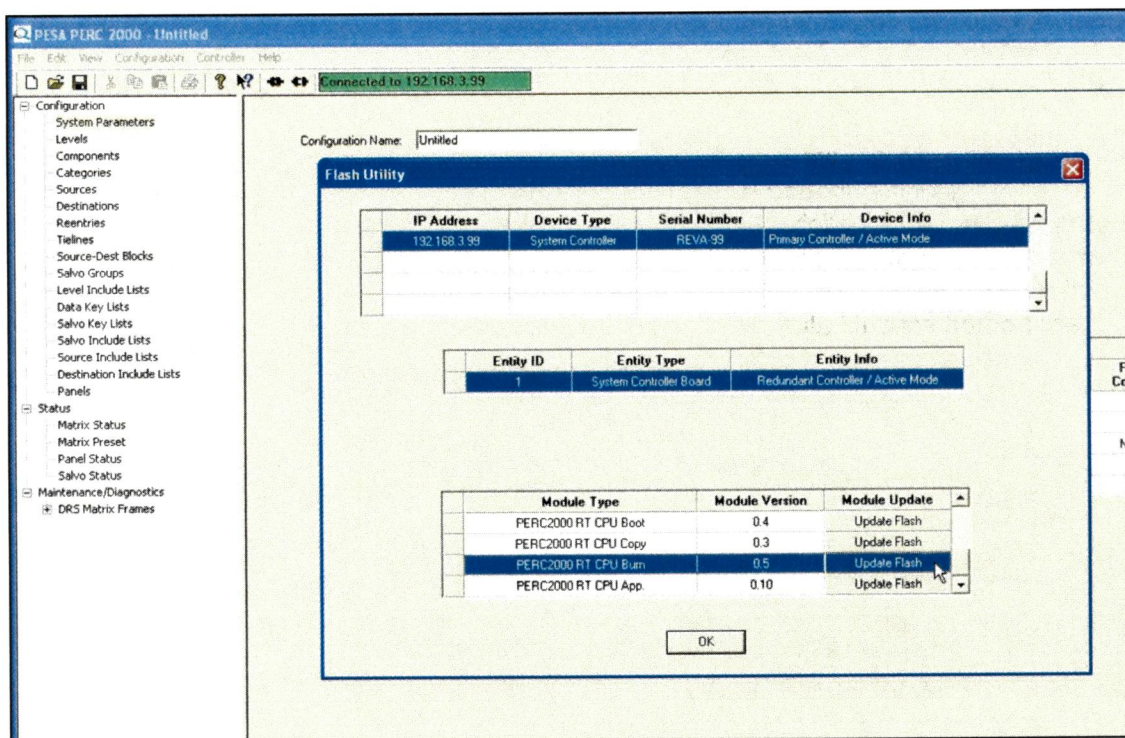

Figure 16. Update Flash Command Location
5. Entries in the Module Type listing identify the various firmware modules and routines that comprise the controller operating code. We will be updating seven of these elements, but the order of updating is critical and must be followed exactly as presented in the following steps. Use the scroll bar in the Module Type window to locate the module named **PERC2000RT CPU Burn**, as shown in Figure 16, and click on this entry to highlight the module name. Click the cursor in the Module Update box on the command **Update Flash**.